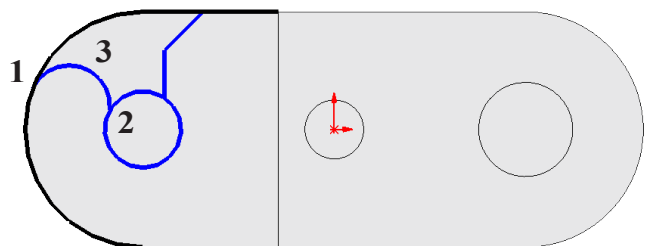

Fig. 30
Step 8. Click **3 Point Arc**  (S) in the Arc flyout  on the Sketch toolbar.
Step 9. Sketch **arc with start endpoint at converted circular edge and endpoint at circle and radius up**, Fig. 30.